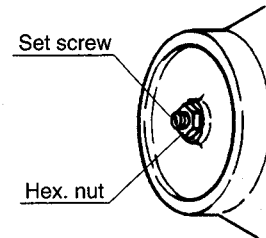

Fig. 2
9. Brake Adjustment (See Fig. 2.)